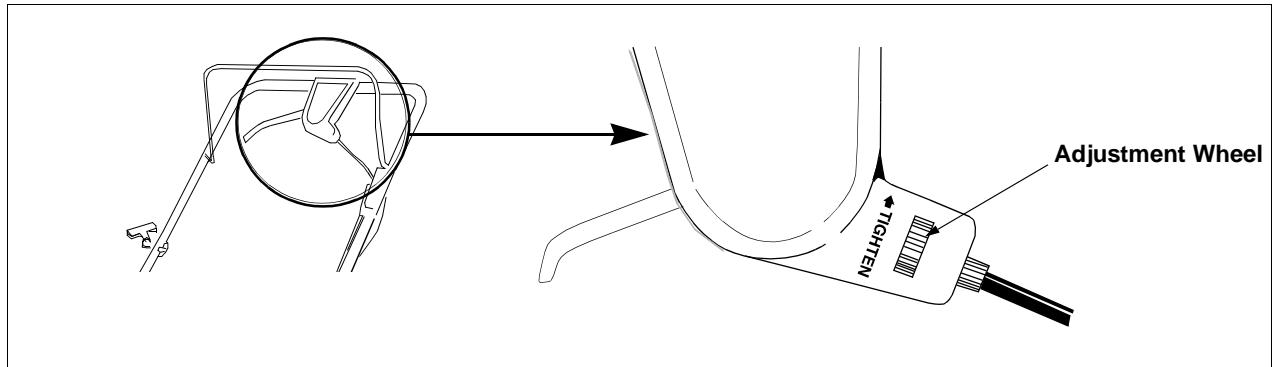

Figure 16
- To adjust the drive clutch, rotate the adjustment wheel with your fingers. You should rotate the wheel clockwise to tighten the cable and counter-clockwise to loosen the cable. See Figure 16.
- If the drive clutch control handle is not in a comfortable position for you, adjust the handle by tightening the adjustment wheel. See Figure 16.